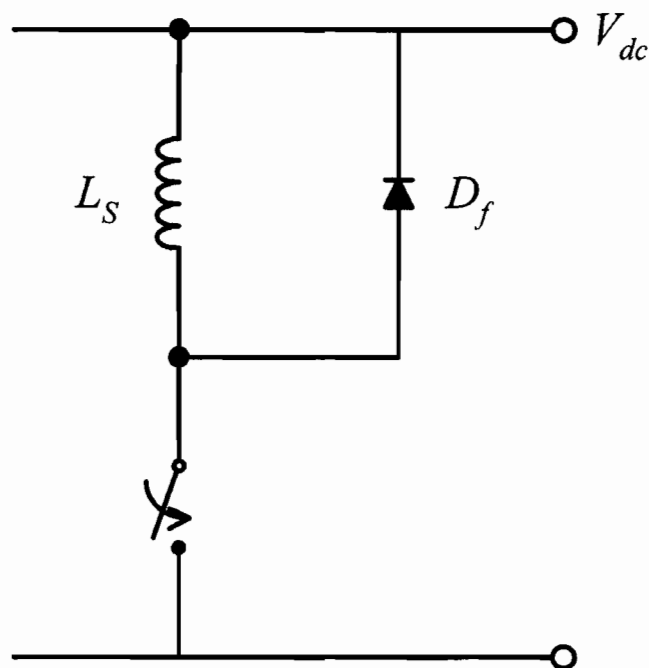

Fig. 1
1. (a) The circuit in Fig. 1 shows a simplified inductive switching circuit for a high voltage system such as a Switch Mode Power Supply (SMPS),